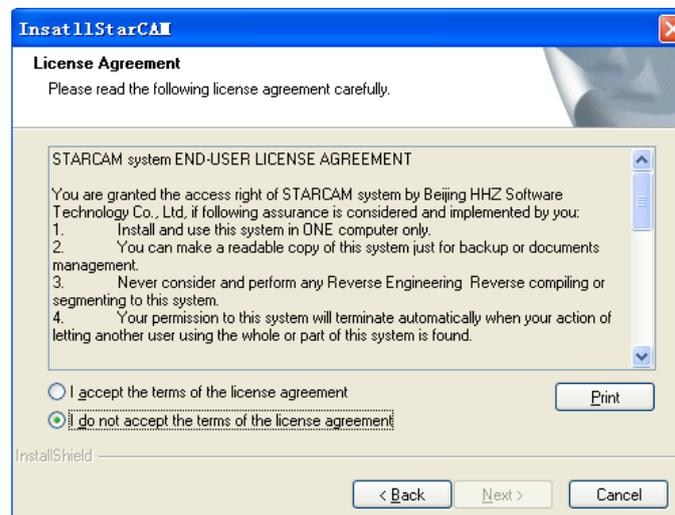

Figure 2
2. Click the button “Next”, and enter the license interface as shown in Figure 2.